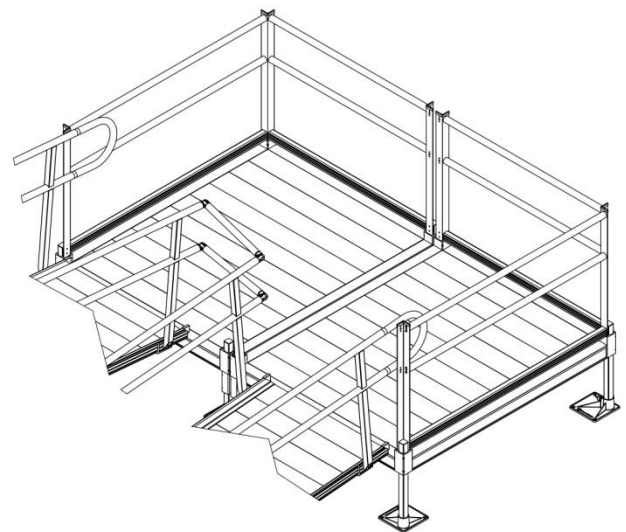

FIG. 6.6
- 6.1.11. Handrails for the inside of turn back platforms (two platforms connected) are connected using the MHRRC (CONNECTOR – RAMP HR TO RAMP HR) (FIG. 6.6). A minimum of distance of 8" is required between the ramp side rails in order to install the connectors.